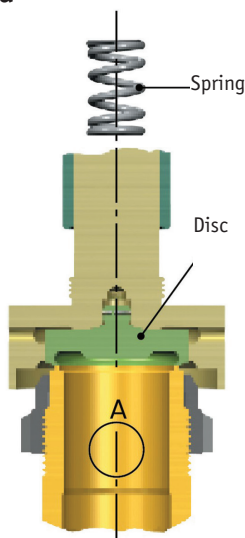

Figure 1: SRV closed position
A spring-loaded SRV consists of an inlet nozzle that is connected to a vessel or system to be protected, a disc that moves to control the flow through the nozzle and a spring that controls when the valve opens and the position of the disc. The valve operates by using inlet system pressure to overcome a spring load and, as a result, the valve opens to relieve a defined capacity. When the valve is closed, as shown in Figure 1, the spring force resists the upstream pressure acting against the seating surfaces (Area A). As the pressure increases, the pressure at (A) tends to equalize the spring force and the pressure holding the seats together approaches zero.